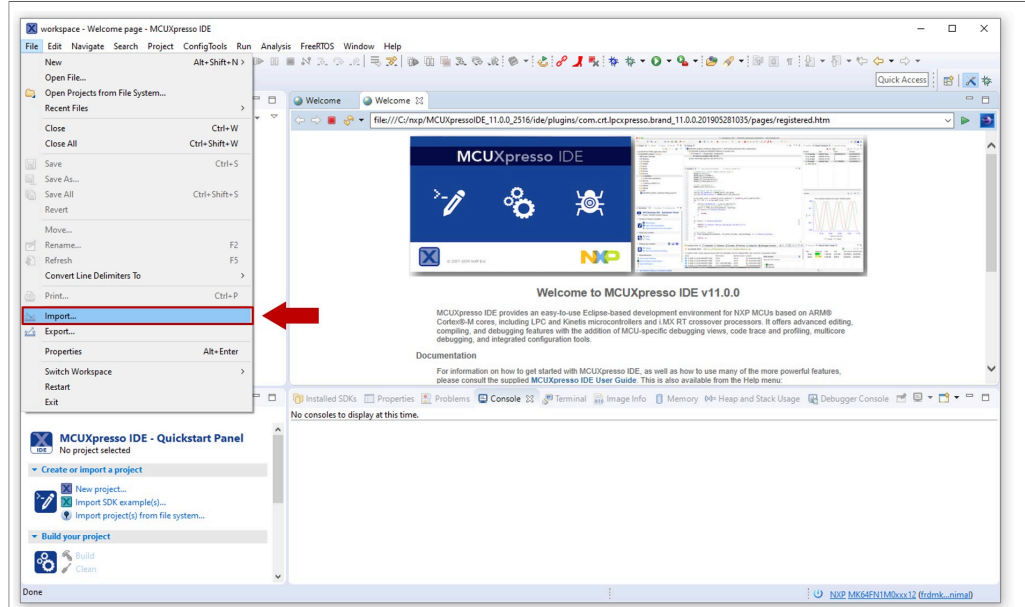

Figure 27. Import a project wizard
1. Go to *File* → *Import* using the top bar menu as shown in Figure 27.